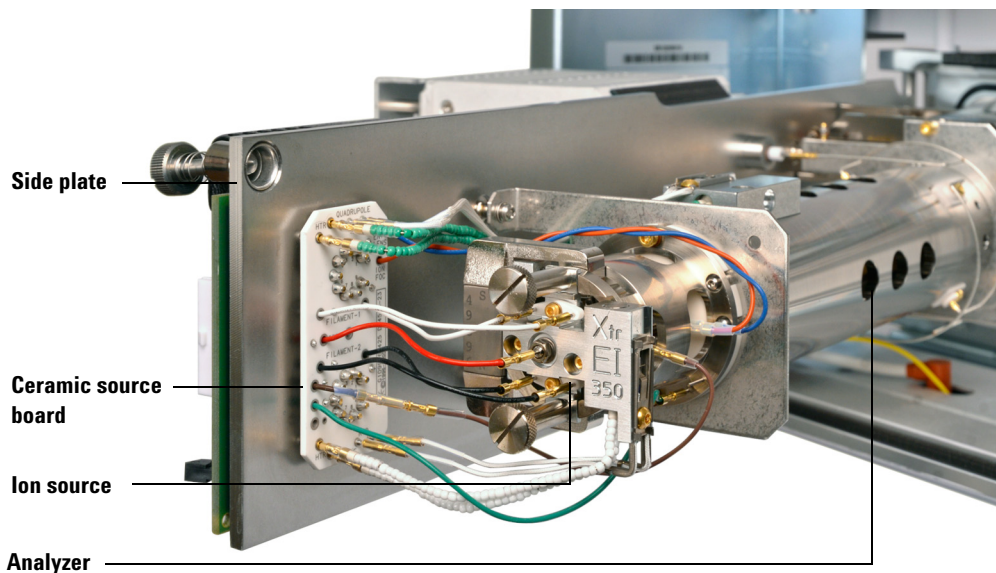

Figure 46 The analyzer chamber for an Inert+ model MSD
- 3 Loosen the analyzer side plate thumbscrews if they are fastened. (See Figure 46 on page 153.)